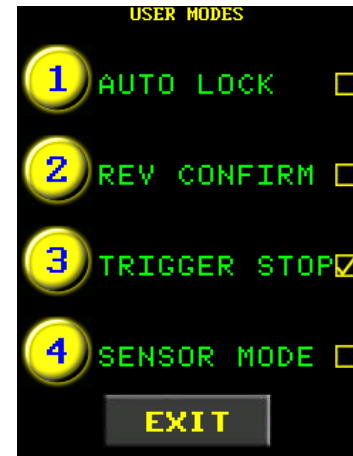

Figure 5.10-2: User Modes Menu
3. Select "Trigger Stop" to turn the Trigger Stop function on or off (Figure 5.10-2).